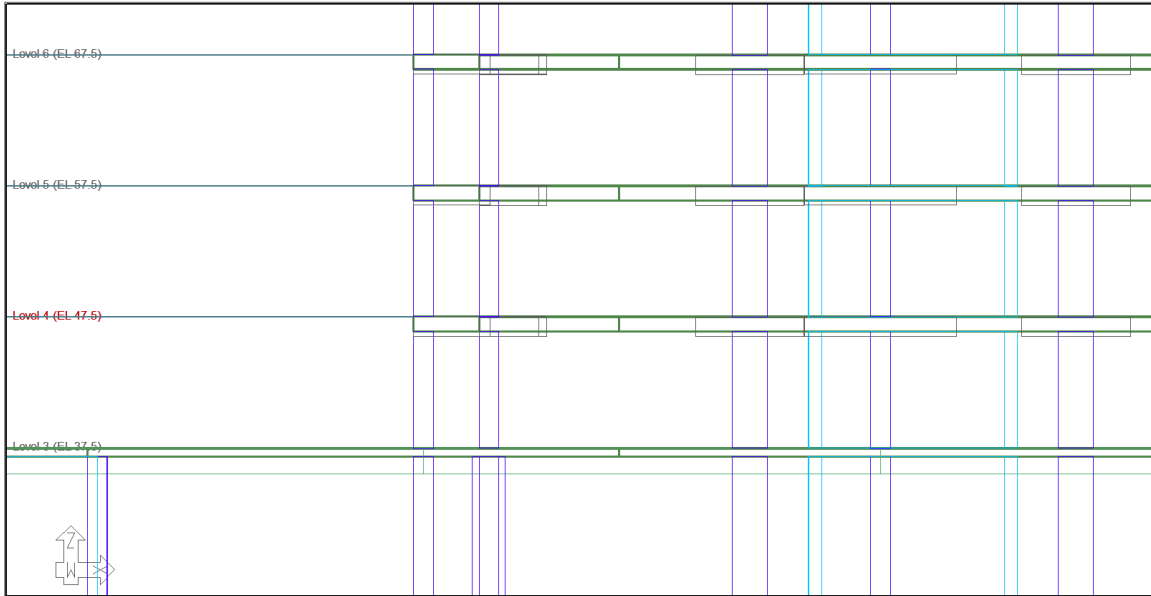

FIGURE 7-7
- Go to *Model->Preprocessing* and click the **Connect Supports**  icon. The program will automatically shift the tops and bottom of the supports to the top/soffit of slab as shown in **FIGURE 7-7**.